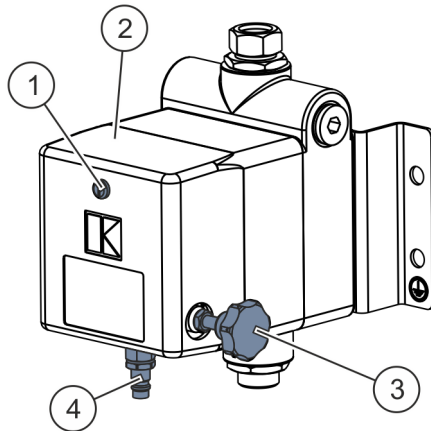

Fig. 15: Cover hood
5.  Attach the cover hood (Fig. 15/3) and tighten it with the screw (Fig. 15/4).
6.  Screw in the compressed air connection (Fig. 15/1).
7.  Screw on the star handle (Fig. 15/2) of the pressure regulator.